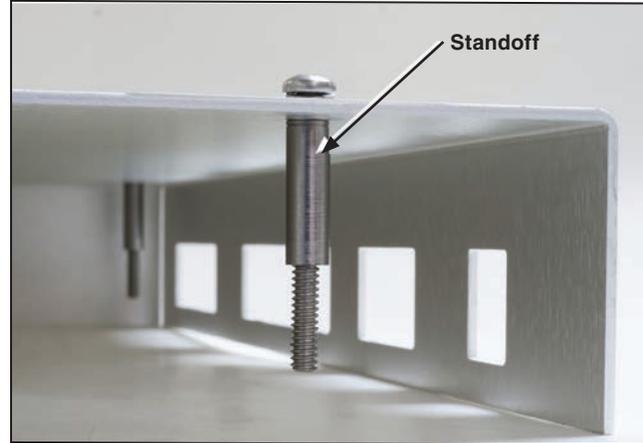

Figure 12. The standoff placed properly under the cover.
- STEP 11.** Reinstall the cover. Make sure the standoffs are in place, and tighten the screws. See Figure 12.